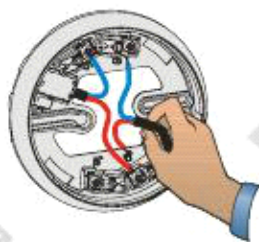

Fig. 1
• Easy, time-saving and high-quality mounting (Fig. 1)